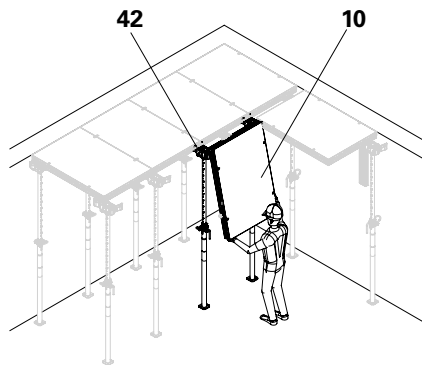

Fig. D2.14a
1. Attach the DP panels (10) to the backpropping head. (Fig. D2.14a)